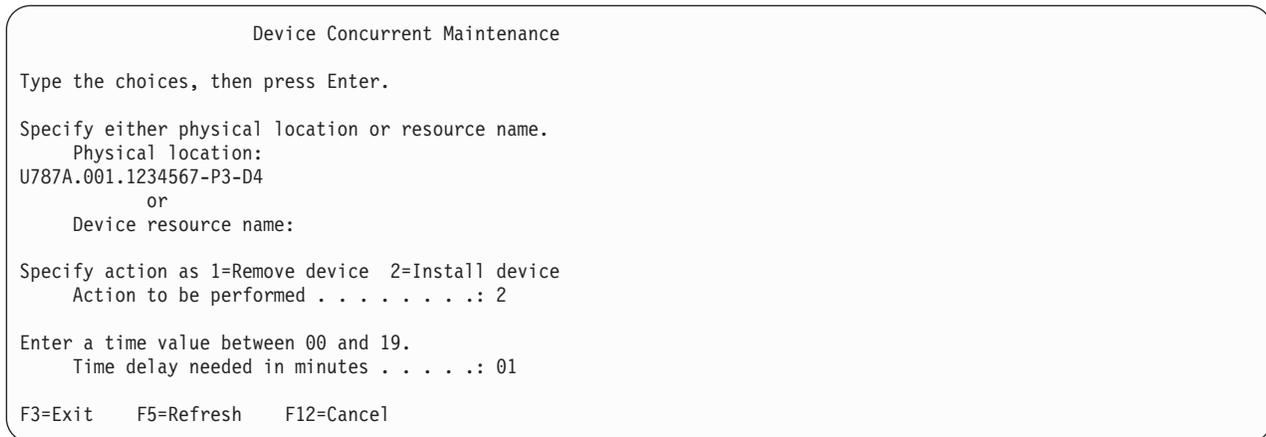

Figure 27. Example Device Concurrent Maintenance display
8. In the **Specify either physical location or resource name** field, type the physical location that you had previously recorded in this procedure, as shown in Figure 27.